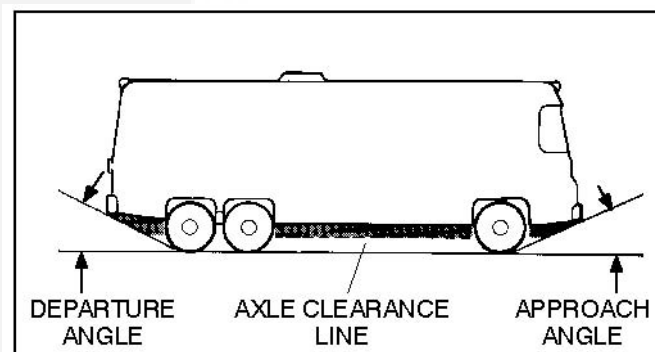

FIGURE 11. VEHICLE CLEARANCES
Below-floor mounting kits are available from Onan. Carefully follow the instructions in the kit. Reinforce the generator set to resist the dynamic weight. Do not mount the genset within the approach or departure angles of the vehicle or below the axle line (Figure 11).
EXHAUST GAS IS DEADLY! To keep exhaust gases from entering the vehicle do not terminate the exhaust tailpipe underneath the vehicle or closer than specified to openings into the vehicle (Figure 10) or route it such that it is likely to be damaged (Figure 11). Use approved materials and parts only.
10. Route the tail pipe such that it is not likely to be struck when the vehicle is moving. Keep it out of the approach and departure angles of the vehicle and above the axle clearance line (Figure 11).